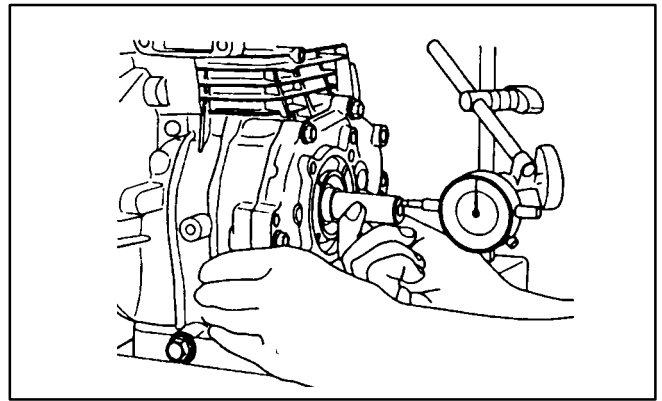

FIGURE 9-33. SIDE CLEARANCE OF CRANKSHAFT
1. Set a dial gauge, as shown in Figure 9-33, push the shaft in and measure the clearance.